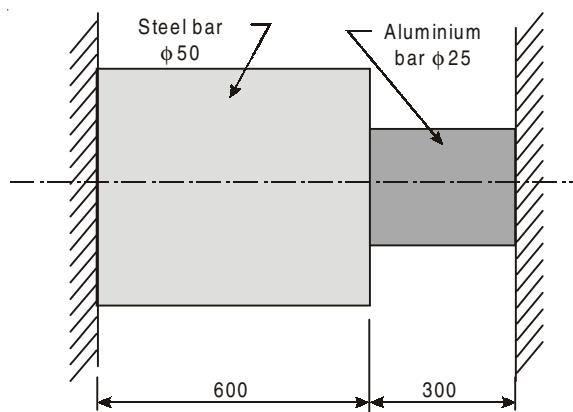

Fig. 1.33
- 1.81. A composite bar made up of aluminium and steel is held between two supports as shown in Fig. 1.33. The bars are stress free at a temperature of 38°C. What will be the stress in the two bars when temperature of 21°C if (a) the supports are unyielding and (b) the supports come nearer to each other by 0.1 mm² it can be assumed that change in temperature is uniform all along the length of the bar $E_s = 210 \text{ kN/mm}^2$, $E_{AL} = 74 \text{ kN/mm}^2$, $\alpha_s = 11.7 \times 10^{-5}/^\circ\text{C}$ and $\alpha_{AL} = 234 \times 10^{-5}/^\circ\text{C}$.